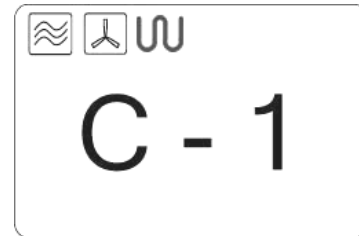

Fig. 6
- Press the **"M.W.+Conv."** button on the control panel and the digital display will show the microwave, convection, and grill symbols and **"C-1"**. (Fig. 6) By continually pressing the **"M.W.+Conv."** button, you will be able to reach different levels of microwave and convection cooking: